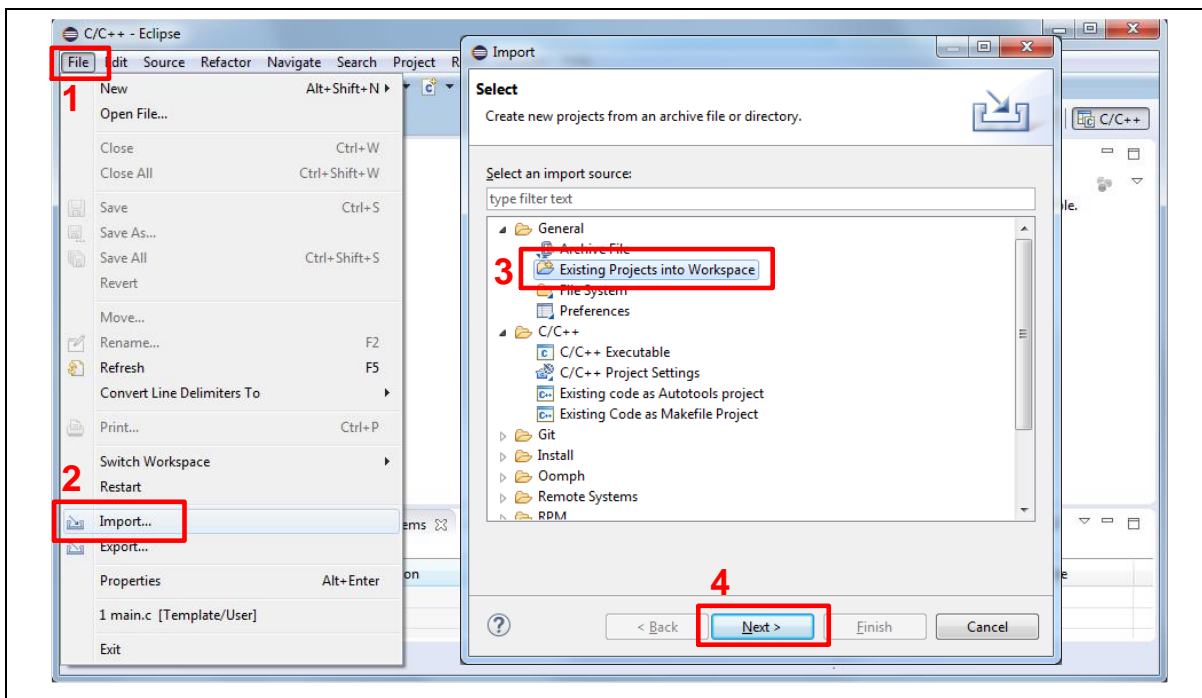
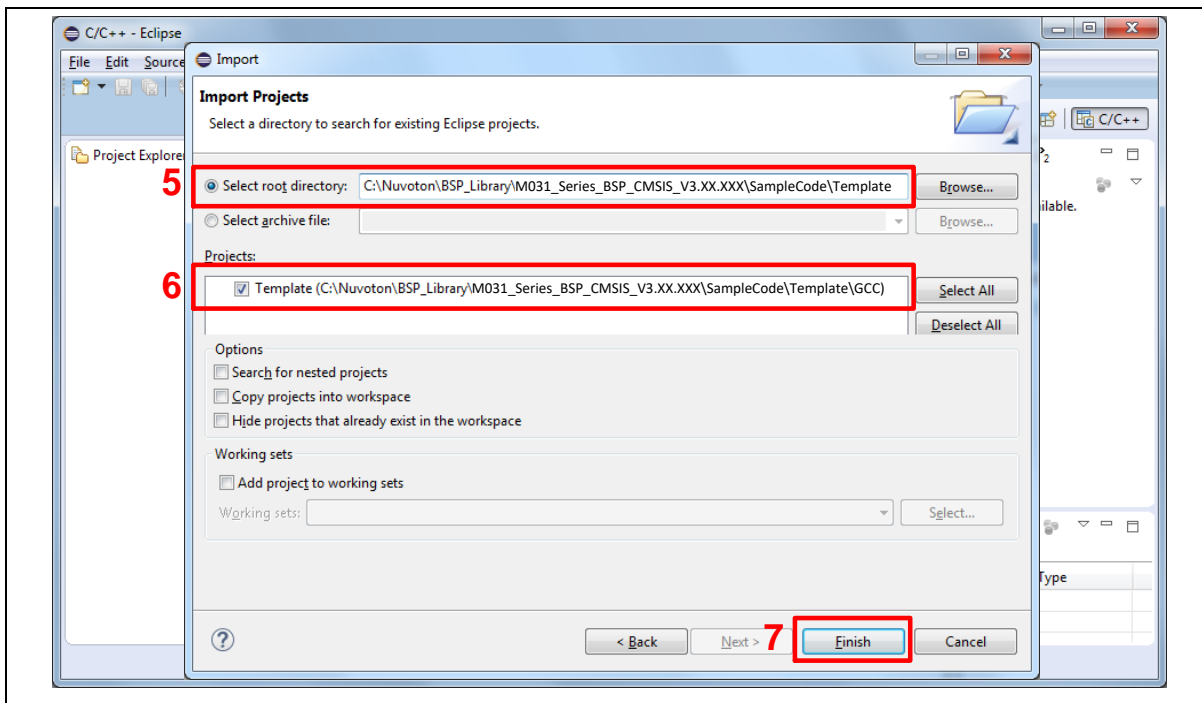

Figure 4-19 Import the Project in NuEclipse
Figure 4-20 Import Projects Windows
- Import the “Template” project by following the steps presented in Figure 4-19 and Figure 4-20.